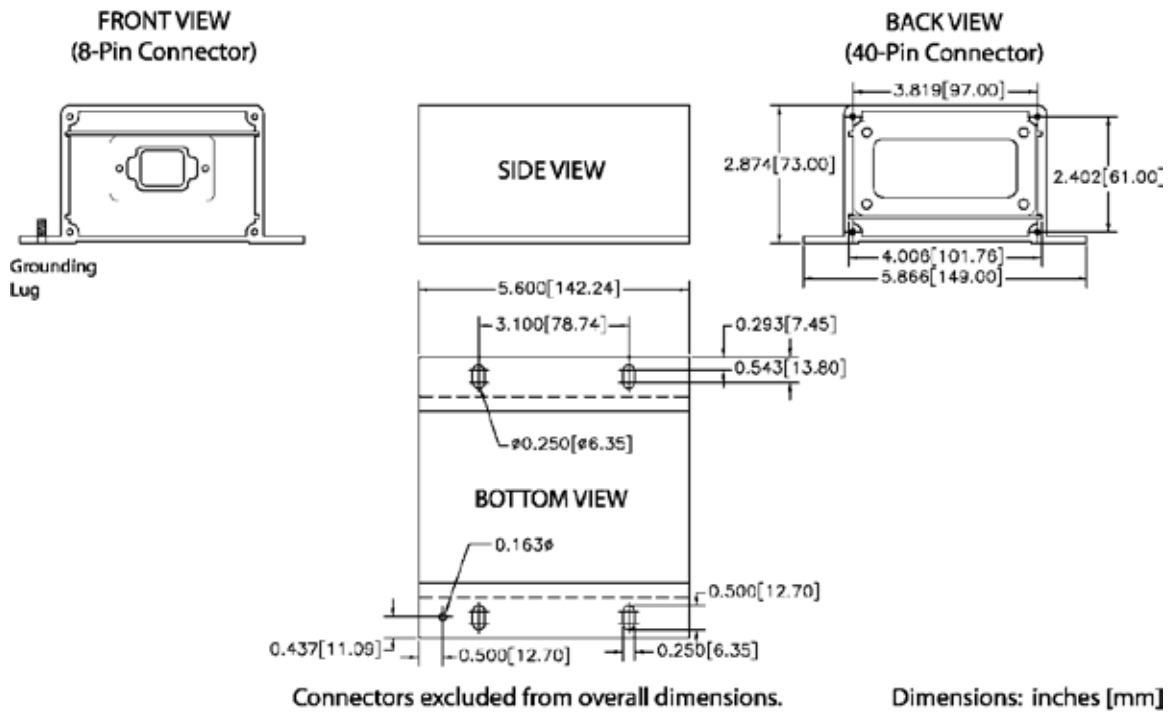

Figure 26.13 – Thermocouple, RTD, and Discrete I/O Module Physical Layout
- Reads up to eight (8) Platinum RTD inputs with 2, 3, and 4 wire configurations
- Compact size (see mechanical drawing, Figure 26.13)